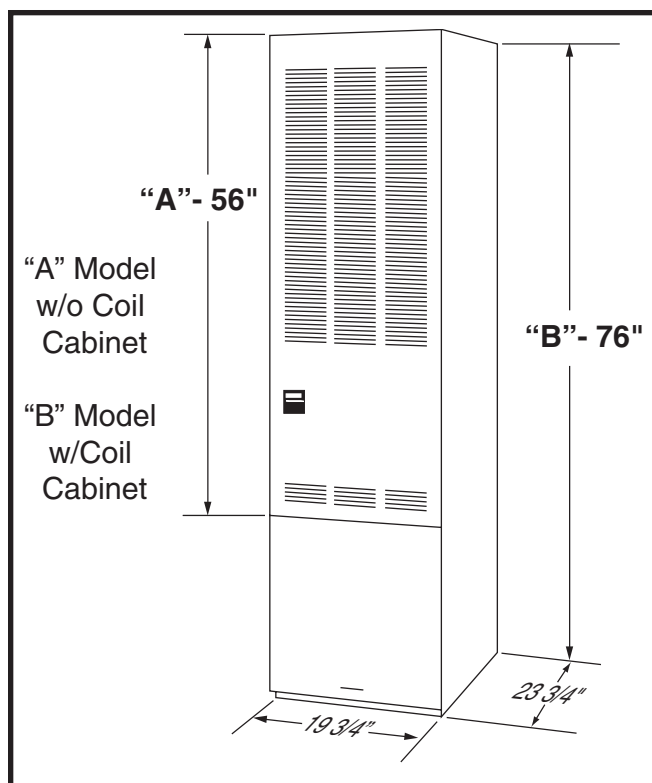

Figure 4. Overall Dimensions
- The dimensions of the room or alcove must be able to accommodate the overall size of the furnace and the installation clearances listed in Table 1 and in Figure 4 \(page 5\).